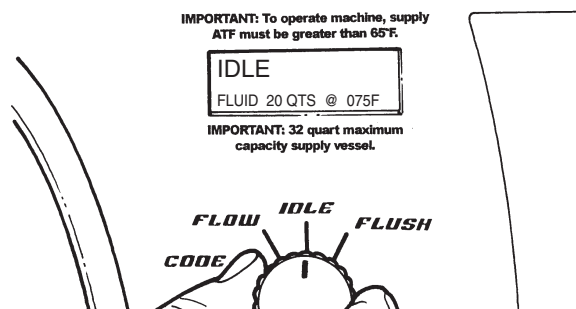

Figure 4
**Caution:** Do not overfill the supply vessel. Damage to the unit may result. To verify the fluid level, view the LCD screen display while filling the unit to ensure that the fluid level does not exceed 32 US quarts. See Figure 4.